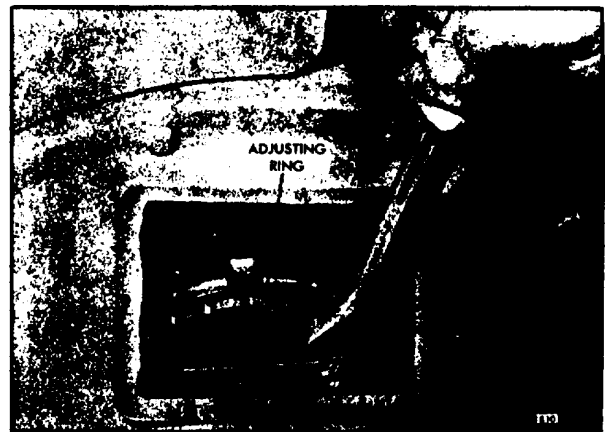

Fig. 10. Adjusting Clutch
3. Remove the clutch adjusting ring spring lock screw and lock from the inner clutch pressure plate and adjusting ring. Then, while holding the clutch drive shaft to prevent the clutch from turning, turn the clutch adjusting ring counterclockwise as shown in fig. 10 and tighten the clutch until the desired pressure on the outer end of the hand lever, or at the